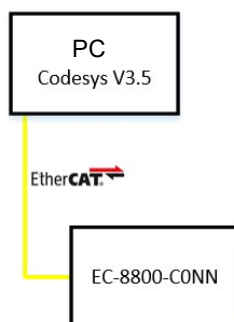

Figure 5-1-8 Communication connection diagram
1. Communication connection diagram, as shown in Figure 5-1-8 shown.